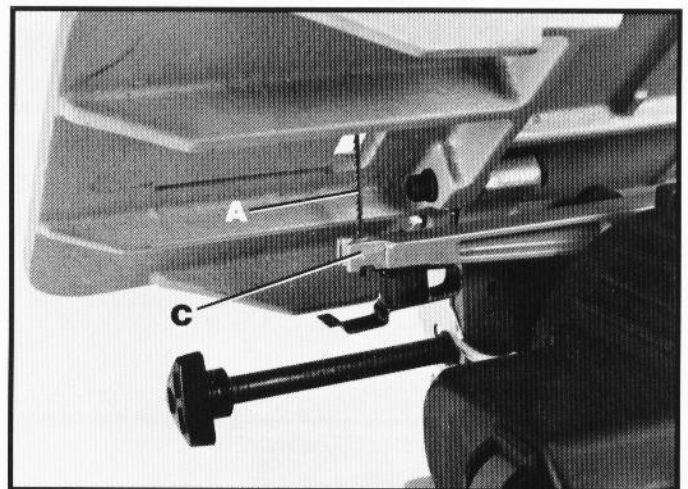

Fig. 20
4. Remove the other end of pin-type blade (A) Fig. 20, from lower rocker arm (C).